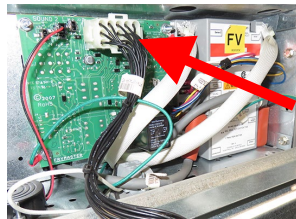

Figure 2
5. Disconnect the controller harness from the interface board (see Figure 2).